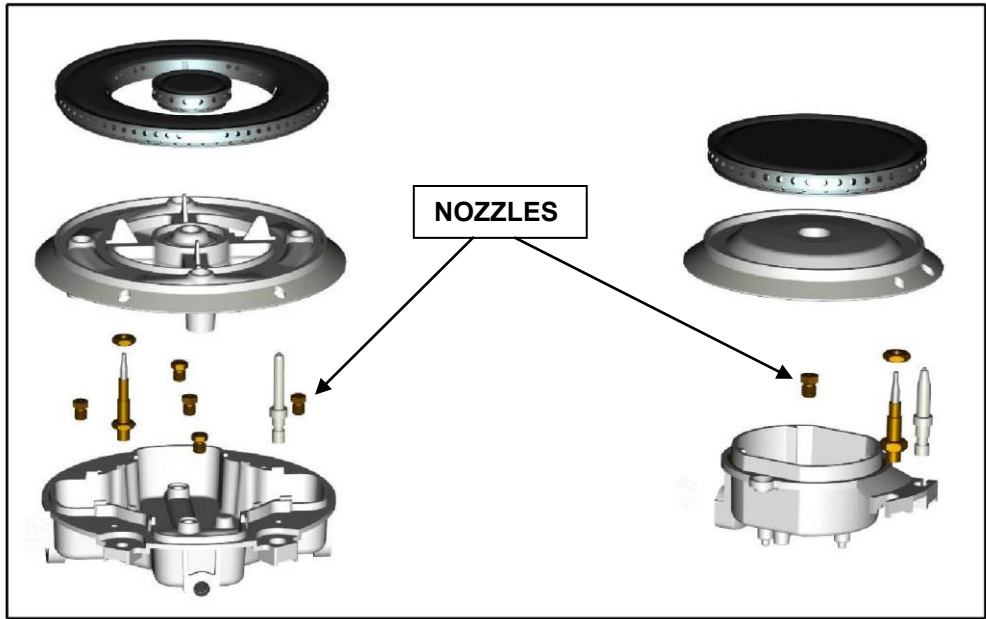

Figure 24
- 3) Install the proper nozzles in the exact locations as noted in the illustrations above (see Figure 24).